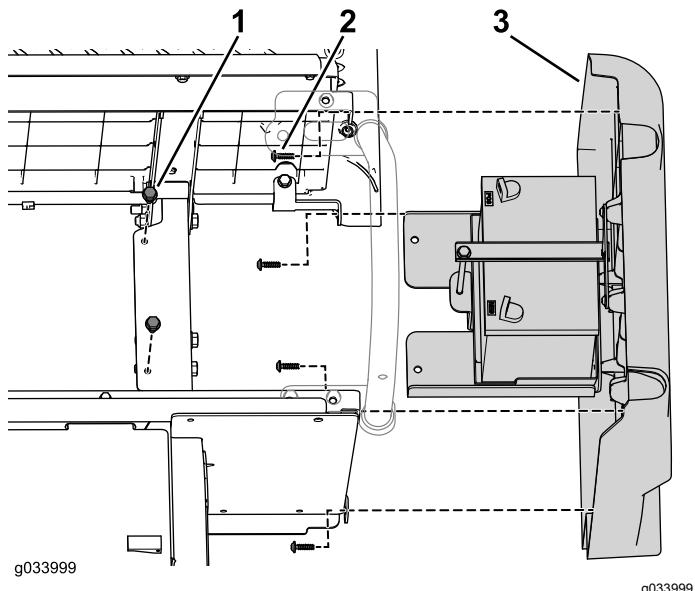

Figure 8
8. Remove the 2 flange-head bolts securing the battery tray to the frame (Figure 8).
9. Remove the 4 screws securing the right side panel to the lower seat assembly (Figure 8).
1. Secure the right side panel using the previously removed 4 screws (Figure 8).
2. Secure the battery tray to the frame using the previously removed 2 flange-head bolts (Figure 8).